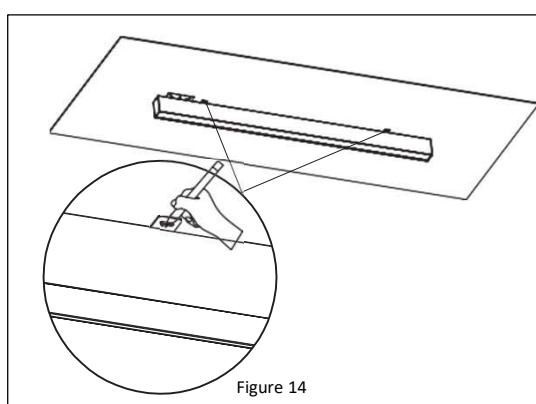

Figure 14
3. Hold the fixture on mounting surface, then mark the mounting positions of the brackets installed in the previous step. *See Figure 14.*